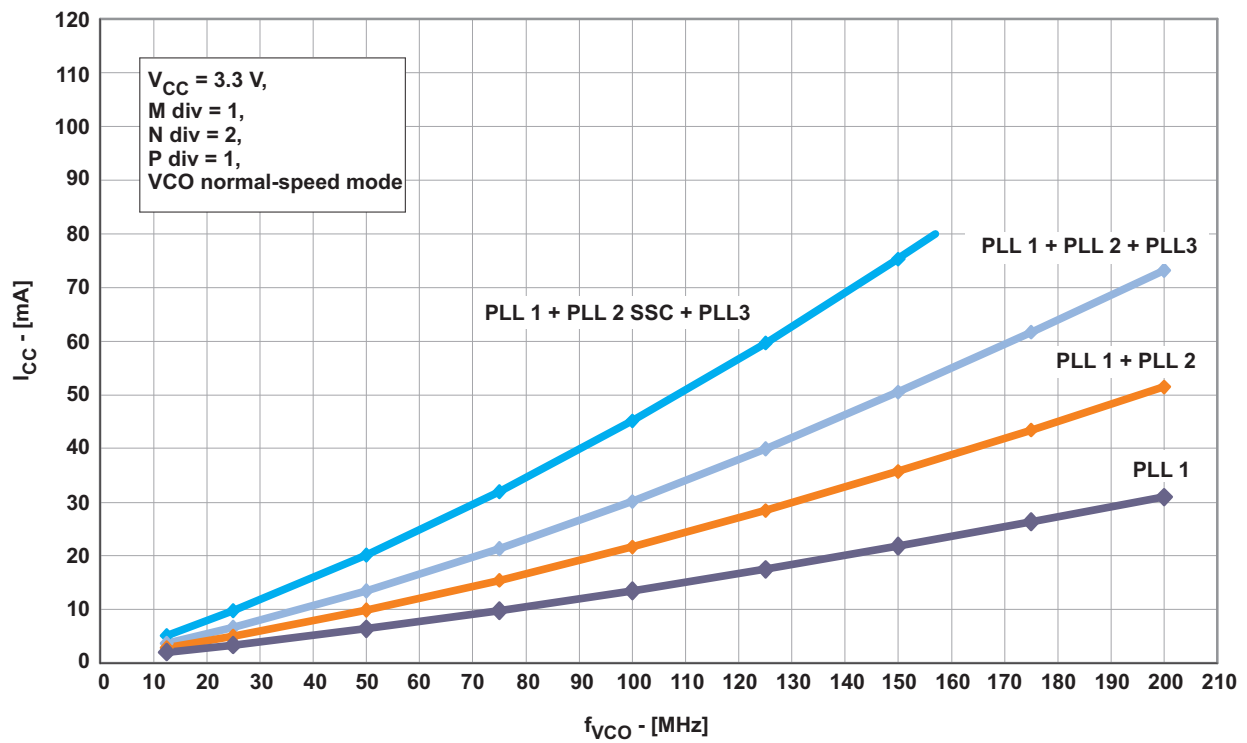
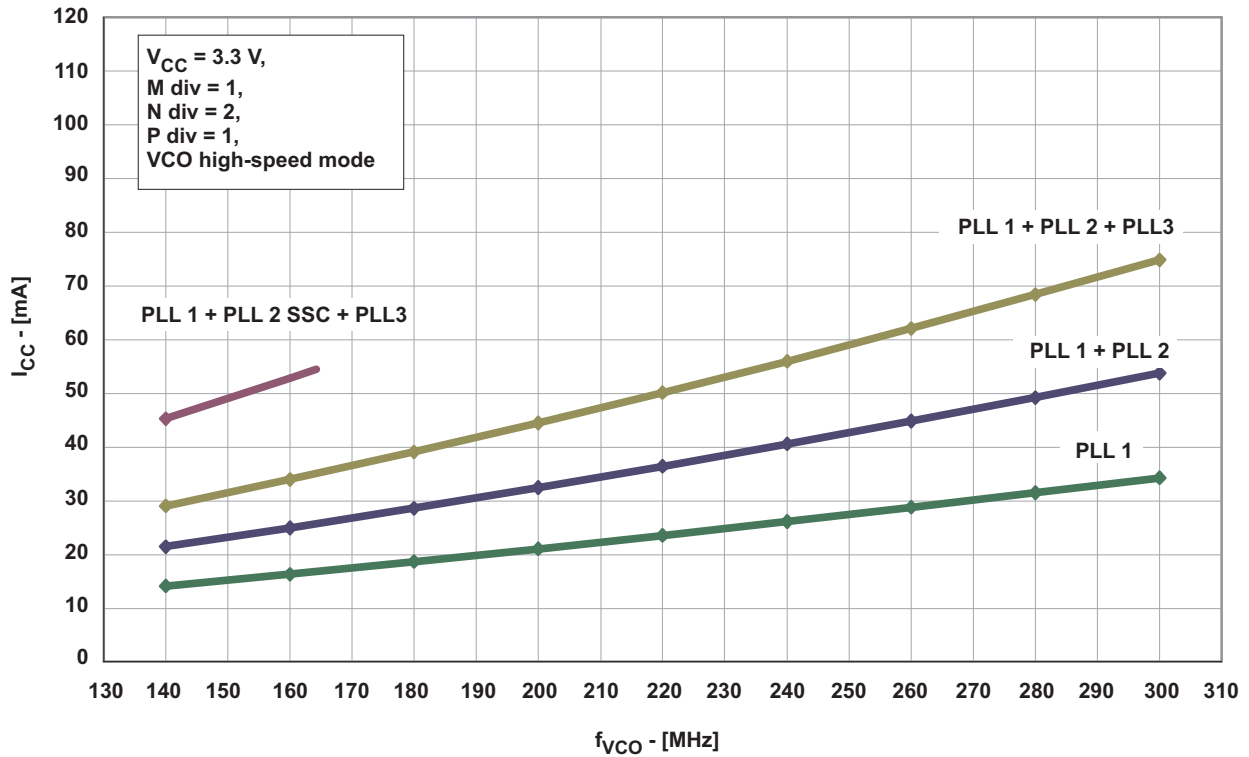
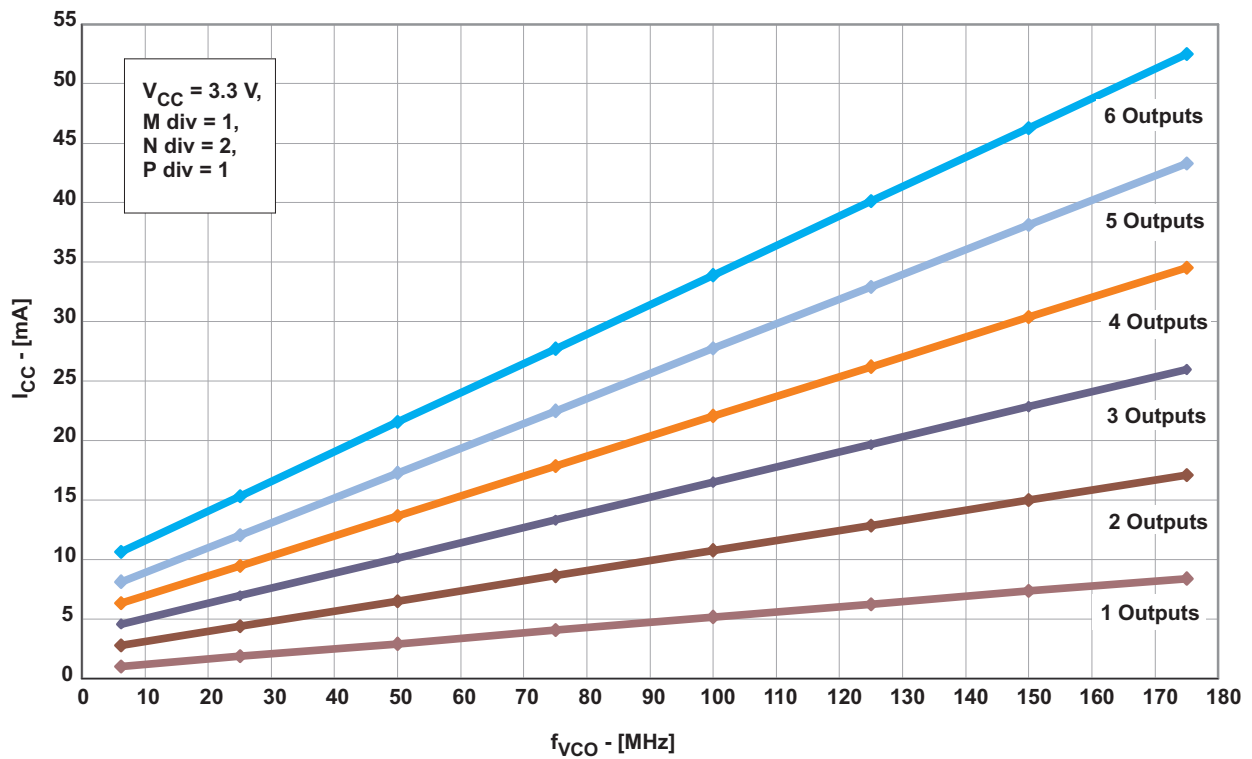

Figure 2.  $I_{CC}$  vs Number of PLLs and VCO Frequency (VCO at Normal-Speed Mode, Byte 6 Bit [7:5])
Figure 3.  $I_{CC}$  vs Number of PLLs and VCO Frequency (VCO at High-Speed Mode, Byte 6 Bit [7:5])
Figure 4.  $I_{CCOUT}$  vs Number of Outputs and VCO Frequency
(1) All typical values are at respective nominal  $V_{CC}$ .(2) For calculating total supply current, add the current from Figure 2, Figure 3, and Figure 4. Using high-speed mode of the VCO reduces the current consumption significantly. See Figure 3.(3) Normal-speed mode or high-speed mode must be selected by the VCO frequency selection bit in Byte 6, Bit [7:5]. The min  $f_{VCO}$  can be lower but impacts jitter-performance.
(4) The maximum output frequency may be exceeded, but specifications under the Recommended Operating Condition may change and are no longer assured. Do not exceed the maximum power dissipation of the 20-pin TSSOP package (600 mW at no air flow).